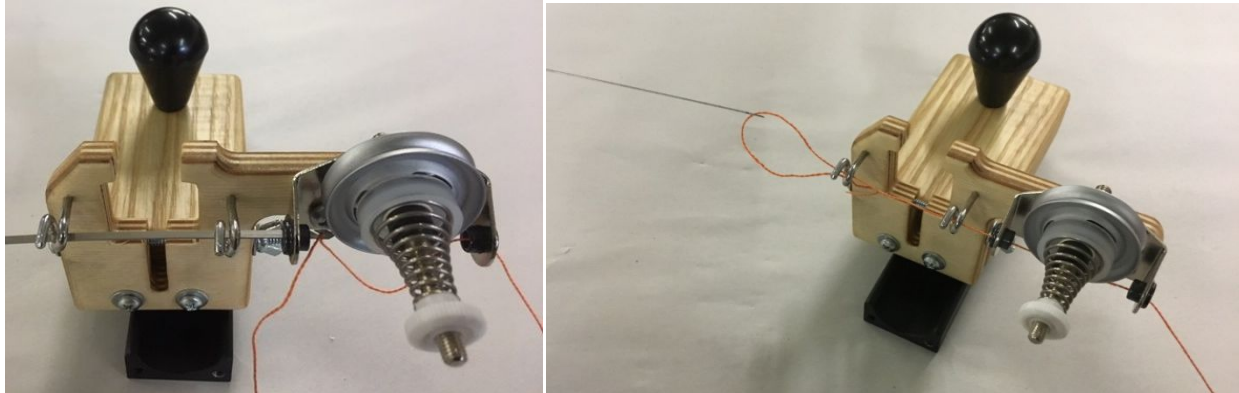

Figure 3 - Hook the yarn and pull through
- 3) Hook the yarn near its end and pull the threading hook straight out the back of the Assembly (see Figure 3).